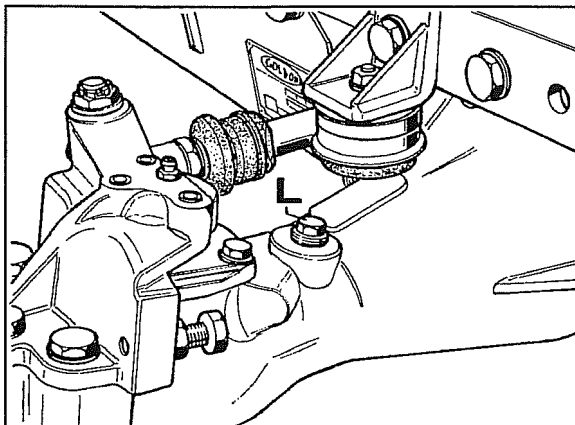
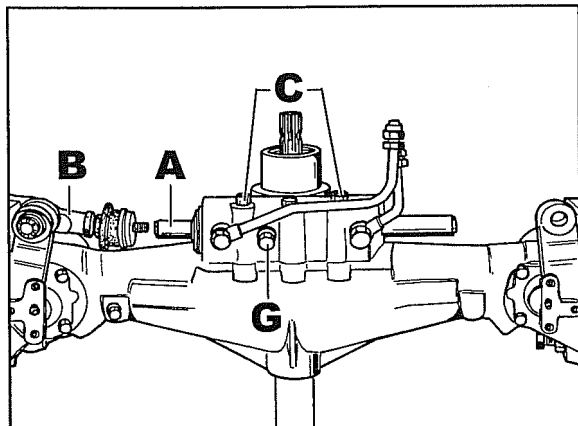

Fig. 68
Fig. 78
If there is a leak on the inside seal rings between cylinder and casing, the oil will drain from the cylinder to the differential. You have proof of this leak when you note the oil level through plug **L** Fig. 68 has increased. If the differential is completely filled, the oil will come out through the oil in the vent plug **G** Fig. 78.
12. Place the axle as shown in Fig. 78 on a work bench or stand.
13. On one side of the axle, disconnect rod **A** from ball joint **B** Fig. 78 and on the other side remove the ball joint ass'y completely.
14. Remove the two nuts **C** Fig. 78 removing their studs to release the tapered seat cylinder retainer bushings.
- The cylinder retainer nuts **C** Fig. 78 should be tightened to 4 Kgm.